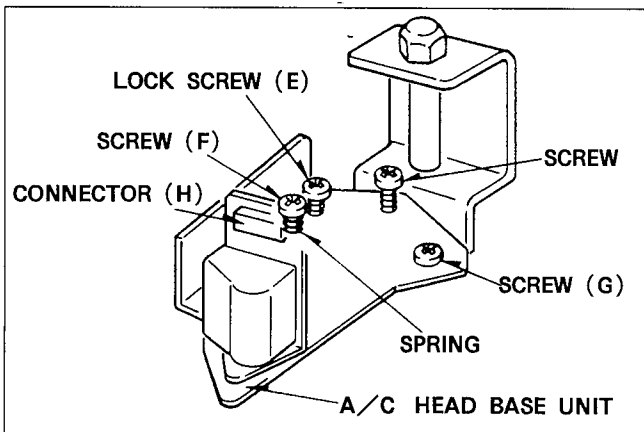

Figure M12
1. Disconnect a connector (H)(Figure M12).
2. Unscrew 3 (B)(C)(D) screws with spring and then remove the A/C Head Unit (Figure M12).
3. The A/C Head (1) Unit can be reinstalled by reversing the removal procedure.